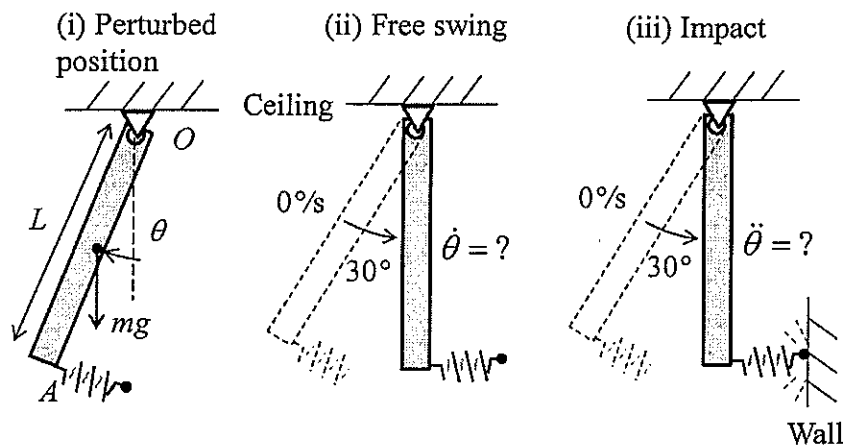

Figure 4
3(a) Figure 4 shows a pendulum, which consists of a rod of a mass m and a length L , pivoted at the point O of the ceiling. A spring of axial stiffness k and negligible mass is fixed to the rod next to the free end A .
- (i) Find the natural frequency of this pendulum system, as shown in Figure 4(i).
- (ii) Find the maximum angular velocity that the pendulum attains during its free swing after the release from an initial 30° angular position and a zero initial speed as shown in Figure 4(ii).
- (iii) Derive the expression for the pendulum's angular acceleration upon its contact at 0° onto an adjacent wall after its release from an initial 30° angular position and a zero initial speed as shown in Figure 4(iii).